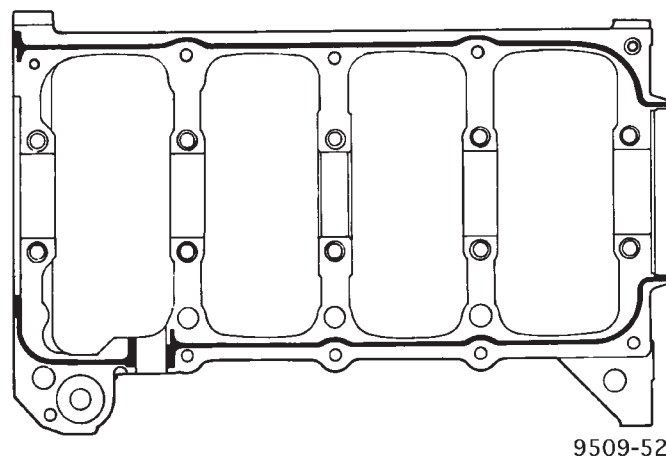

Fig. 82 Main Bearing Caps/Bedplate Sealing
(4) Apply 1.5 to 2.0 mm (0.059 to 0.078 in.) bead of Mopar Torque Cure Gasket Maker to cylinder block as shown in (Fig. 82).